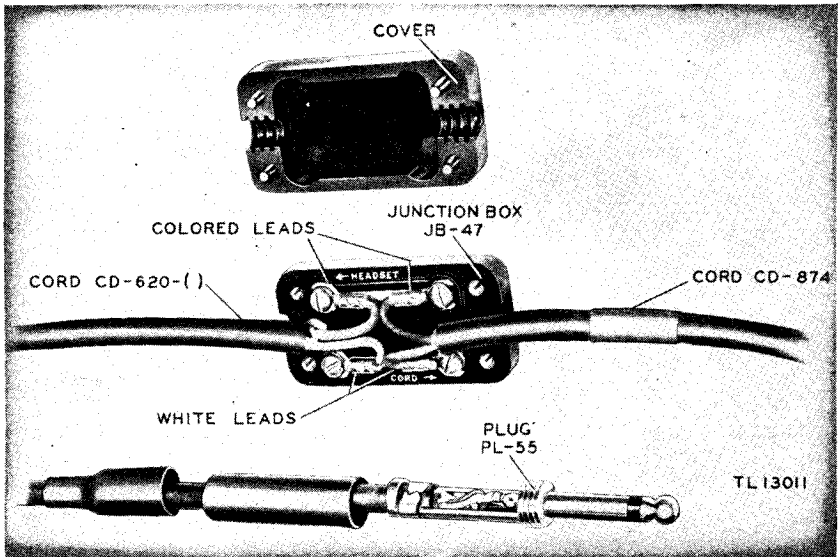

Figure 17. Junction Box JB-47 and Plug PL-55, connection detail.
b. **CORD CD-874.** Cord CD-874, which terminates in Plug PL-55, is supplied for use with Headset HS-30-(). The impedance of Headset HS-30-() with Cord CD-874 is approximately 250 ohms. Junction Box JB-47 is connected between the headset and Cord CD-874. (See fig. 17.)
a. CORD-HEADSET CONNECTION. One end of Cord CD-874 terminates in Junction Box JB-47, which is made of two layers of bakelite held together by four screws. (See fig. 17.) Remove these screws with a small screw driver. Inside are four terminals connected in pairs by two metal strips. On the side of one strip is an arrow and the word CORD. Loosen the two end screws nearest this arrow. Connect the white wire from the headset and the white wire from Cord CD-874 to these screws. The remaining colored wires, one from the headset and the other from Cord CD-874, are attached to the screws nearest the arrow marked HEADSET. Lay the heavy insulated cords in the corrugated grooves of the junction box. Fit the two sections of the junction box together snugly. Insert the four screws and tighten firmly into place.